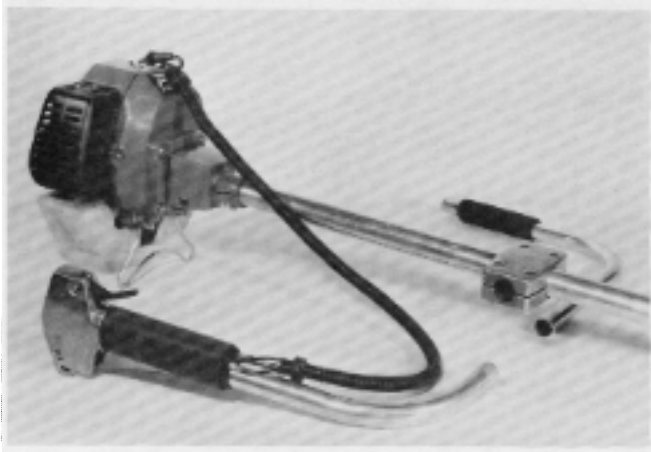

Figure 119
3. Loosen the four nylon lock nuts that secure the handle mount to the drive tube and pull the handles from the mount. See Figure 119.